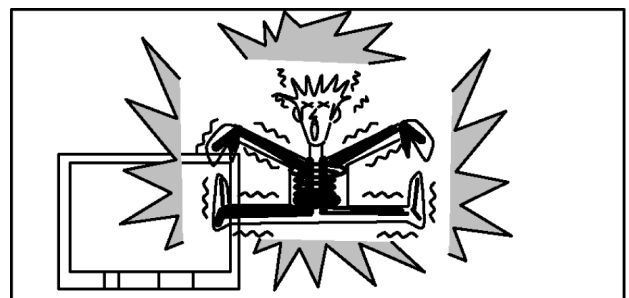

Fig. 4
6. The potential any point should not exceed **1.0 V rms**. In the case of a measurement being outside of the limits specified, there is a possibility of a shock hazard, and the receiver should be repaired and re-checked before it is returned to the customer. Fig. 4.